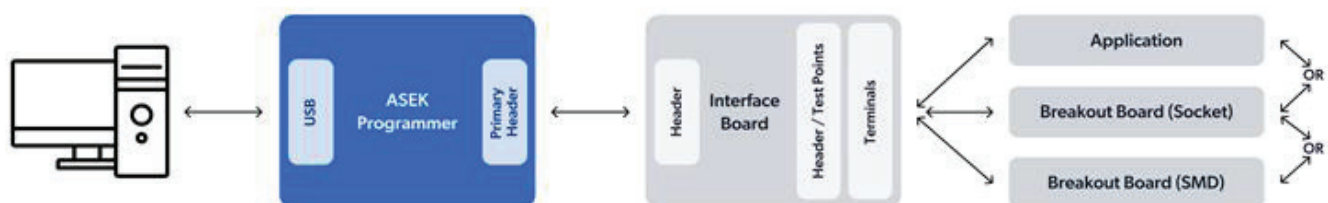

Figure 6: Connection Flow Chart
1. Connect the ASEK-30 to a personal computer (PC) as follows:
3. Connect the programmer to the device as follows (see Figure 6):